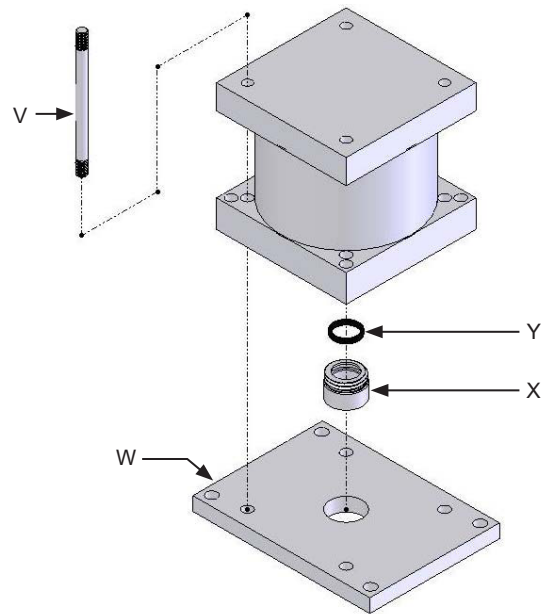

Figure 26. Remove all 4 Tie-Rods to remove Flange
Follow STEP 4A, b) exactly, only BUSHING ASSEMBLY (X) will be in the place of BEARING ASSEMBLY (X) as shown in figure 26.